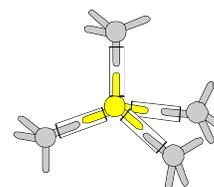

Fig. 9 Anion C.N. 4.
- Surround one sulfide with four zinc ions to form a separate model to show the anion coordination number of four. (Fig. 9)